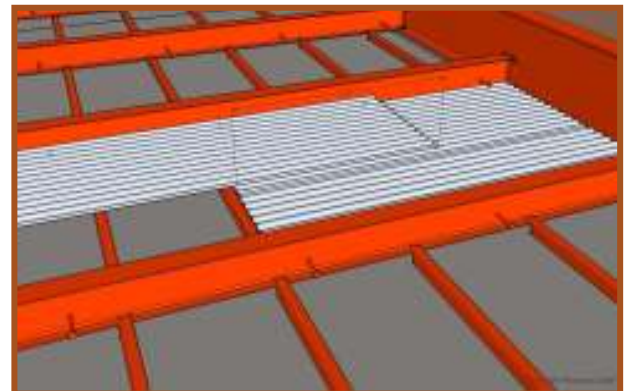

Figure 6 Corrugated Placement
- Overlap at the seams at least one full pitch. See Figure 6.
8. Allow deck to **moist cure for seven (7) days**, or coat with liquid curing compound instead.